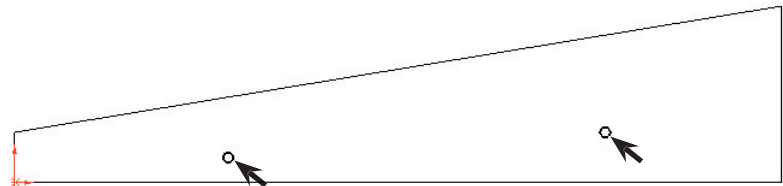

Fig. 13
Step 4. Draw two circles for the axle holes, **Fig. 13**. Draw the back hole slightly above the front hole. **Do not** use the inferencing line, the dotted line that appears when you draw the second circle to keep the circles in-line.